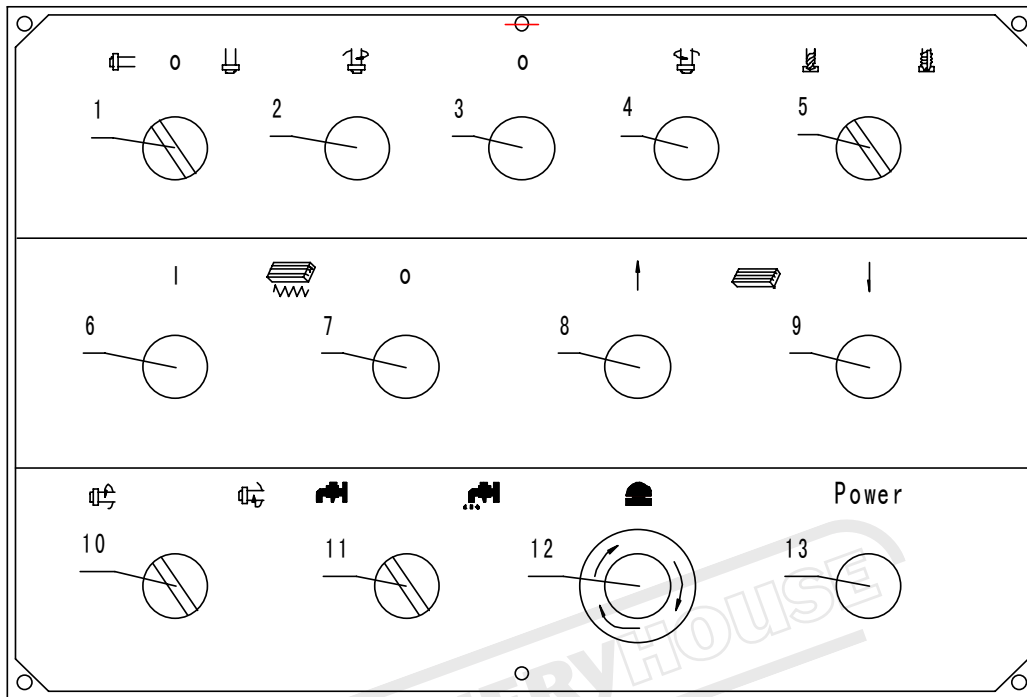

Fig.11 (operation panel)
13.2 Electrical protection modes of the machine: Short - circuit protection, Over current protection, E-stop, O-voltage protection and power-off while door opened protection. Close spindle guard first before switching on power supply every time. Turn E-stop button , and switch (10) of horizontal milling & switch (11) of coolant return , and switch (1) of conversion of vertical and horizontal spindles to zero position, then start to work. Please press E-stop immediately if accident occurs. Turn E-stop knob (12) clockwise, and reset switch (10), switch (11), and switch(1) to zero-positon after obviating malfunction, then start to work. (Fig.11)
CCW push button (4), spindle Stop push button (3), conversion of horizontal spindle and vertical spindle switch (1), horizontal spindle CW or CCW switch (10), longitudinal table feed push button (6), longitudinal table feed stop push button (7), coolant switch on or off(11), table lifting push button (8), table lowering push button(9), conversion of drilling and tapping switch(5)are set on operation panel. (Fig.11)
13.4.1 Milling & drilling mode: Turn switch (5) to drilling or milling mode position, then turn switch(1) to vertical spindle position, and press CW button (2), then the vertical spindle CW turn .(Fig.11)
13.4.2 Tapping mode: Turn switch (5) to tapping mode position, vertical spindle only can manually feed. Preset the tapping depth, press CW push button(2), the vertical spindle CW turns. The stopblock meets the travel limit switch that is in nether position when reach the preset depth, which makes the vertical spindle CCW turn at once, and the tap will be out from the screw, then the vertical spindle returns to the original position and stops, at the same time CW turn instead of CCW turn.(Fig.11)
13.5 Switch (10) controls the CW and CCW turn of the horizontal spindle, and switch (11) controls the on/off of the coolant pump.(Fig.11)
(Fig.2 & Fig.11)